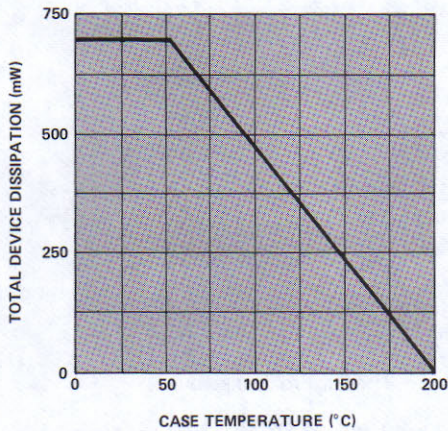

Figure 7. Maximum Power Dissipation Curve for $\theta_{JC} = 210^\circ\text{C/W}$, $T_{JMAX} = 200^\circ\text{C}$.
- See Figure 7 for derating conditions.